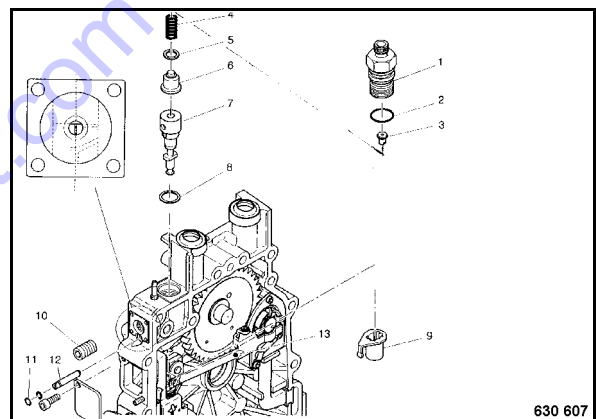

Fig. 87
- When inserting the element group make sure that the plunger flag is inserted through the control sleeve (for easier installation slightly turn the control sleeve from side to side) and that the eccentric pin (12) engages in the groove of the element piston cylinder (Fig. 87).